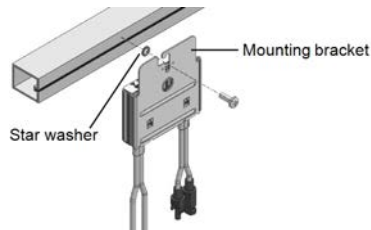

Figure 1: Power Optimizer installation and grounding using a star washer
1. Determine the Power Optimizer mounting location and use the Power Optimizer mounting brackets to attach the Power Optimizer to the support structure (See *Figure 1*). It is recommended to mount the Power Optimizer in a location protected from direct sunlight. For frame-mounted Power Optimizers follow the instructions supplied with the optimizers, or refer to [https://www.solaredge.com/sites/default/files/installing\\_frame\\_mounted\\_power\\_optimizers.pdf](https://www.solaredge.com/sites/default/files/installing_frame_mounted_power_optimizers.pdf).